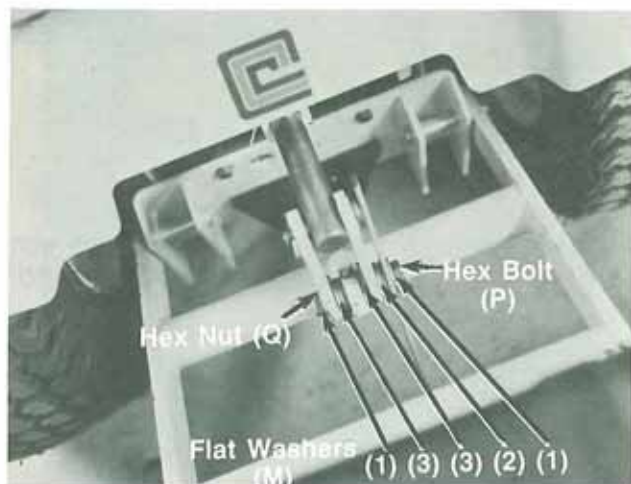

FIGURE 13.
14. Secure links and stabilizer link to hitch bar assembly with hex bolt (P), ten (10) flat washers (M) and hex nut (Q). See figure 13.